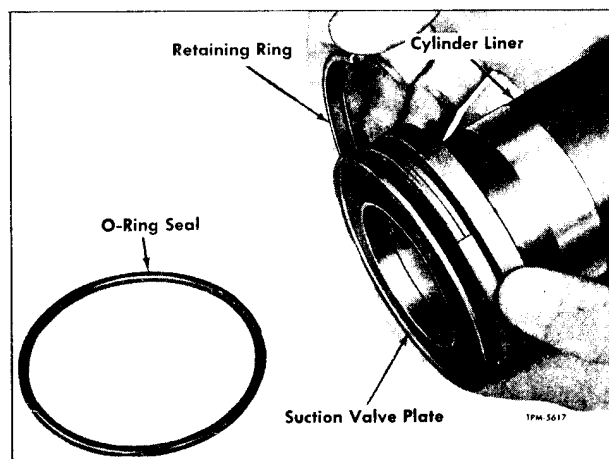
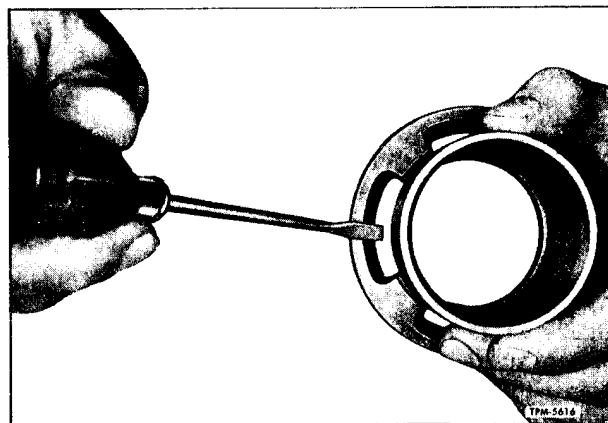

Figure 54—Installing Suction Valve Plate and Retaining Ring
Figure 55—Checking Suction Valve Alignment
3. Lower the cylinder liner (11) down over valve to suction plate, then install three retaining ring segments (12) to retain suction valve plate to cylinder liner (fig. 54). Make sure suction valve is properly seated on valve seat (fig. 55).